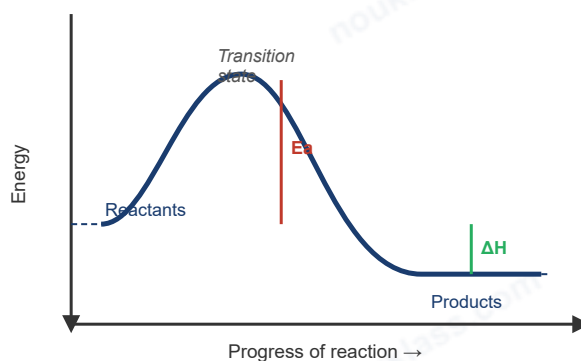

Fig. 2 — Energy profile diagram
Fig. 2 shows the energy profile diagram for a chemical reaction.
- (a) State whether the reaction shown in Fig. 2 is exothermic or endothermic. Give a reason using Fig. 2.